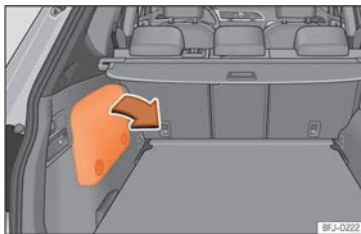

Fig. 243 Hybrid vehicles (PHEV): location of the battery in the luggage compartment
- The 12V battery is located inside the left side compartment >>> **Fig. 243**.